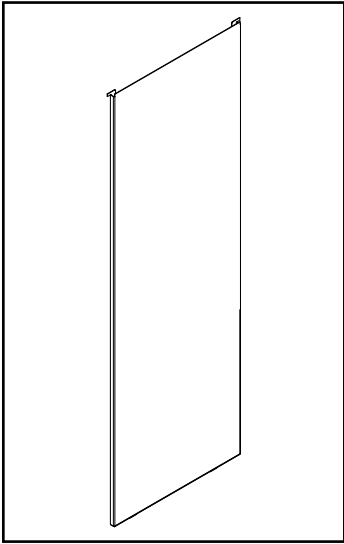
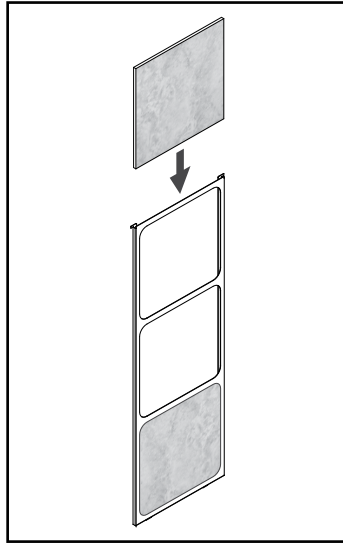

Figure 17.1
Figure 17.2
Your appliance ships with two different side options, one is a solid side panel (**Figure 17.1**) and tile side panel (**Figure 17.2**). There are two of each and no left or right side, these can be changed at anytime.
2. Stack non-combustible material tiles in tile frame as shown in **Figure 17.2**.